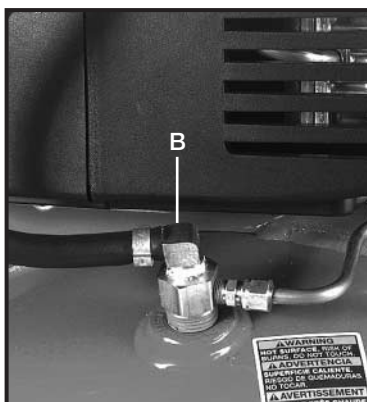

Fig. 1
Check Valve (B) Fig. 1: When the air compressor is operating, the check valve is “open”, allowing compressed air to enter the air tank. When the air compressor reaches “cut-out” pressure, the check valve “closes”, allowing air pressure to remain inside the air tank.